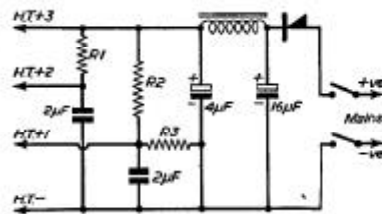

Fig. 102.—A similar circuit, but with choke
**Swinging Choke.**—The ordinary type of choke referred to, and illustrated in Fig. 102, is not intended to use in a circuit where large changes of current occur. In some special circuits where there are large changes of current and a more or less constant inductance is required, a special choke known as a "swinging" choke is used. This is specially wound, and usually has an air gap arranged in the core.